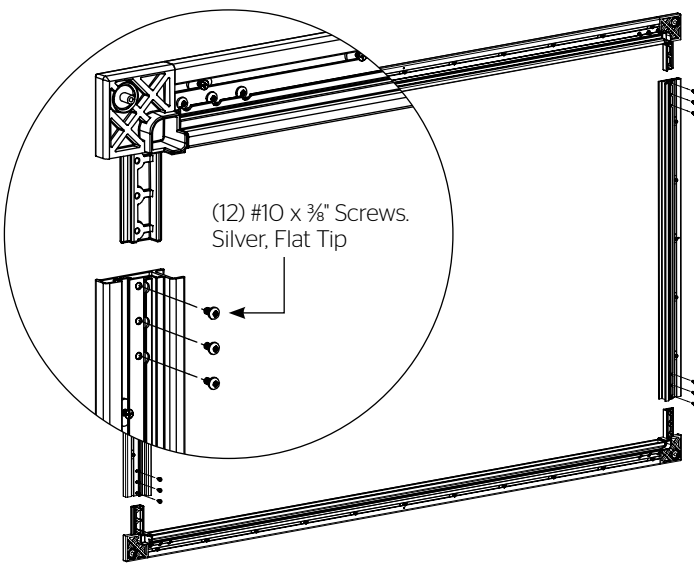

Figure 1
3. Slide inner frame pieces together at corners. Secure inner frame pieces with (12) #10 x $\frac{3}{8}$ " silver screws (Figure 1).